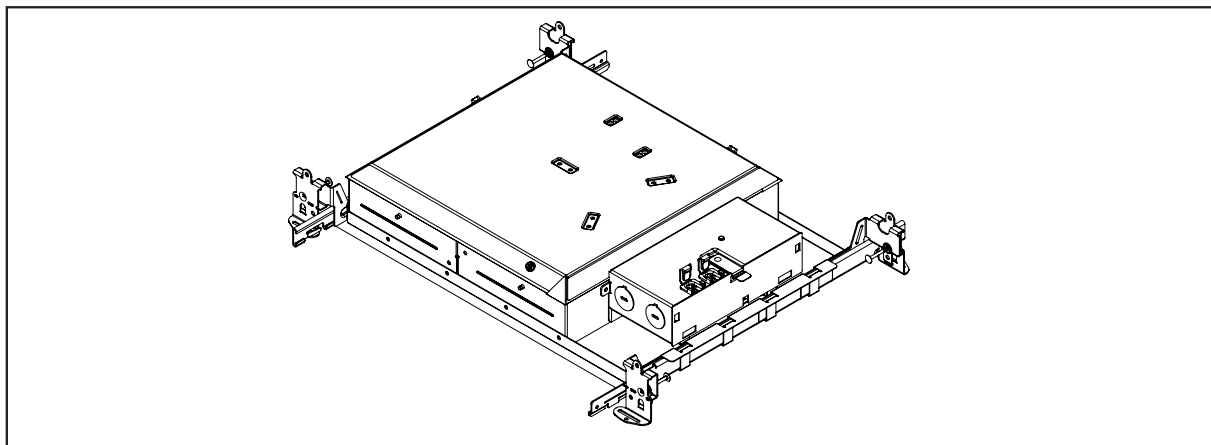

Figure 1.
Fixture is designed for installation where it may come in contact with insulation. Install hanger bars in orientation shown (Figure 1).
4. Position fixture on hanger bars. To secure fixture position in ceiling tighten hanger bar locking screw to lock fixture in place on bars (Figure 1).
4. Center fixture over opening. To secure fixture position in ceiling, tighten screws to lock fixture in place on bars. (Figure 1.)